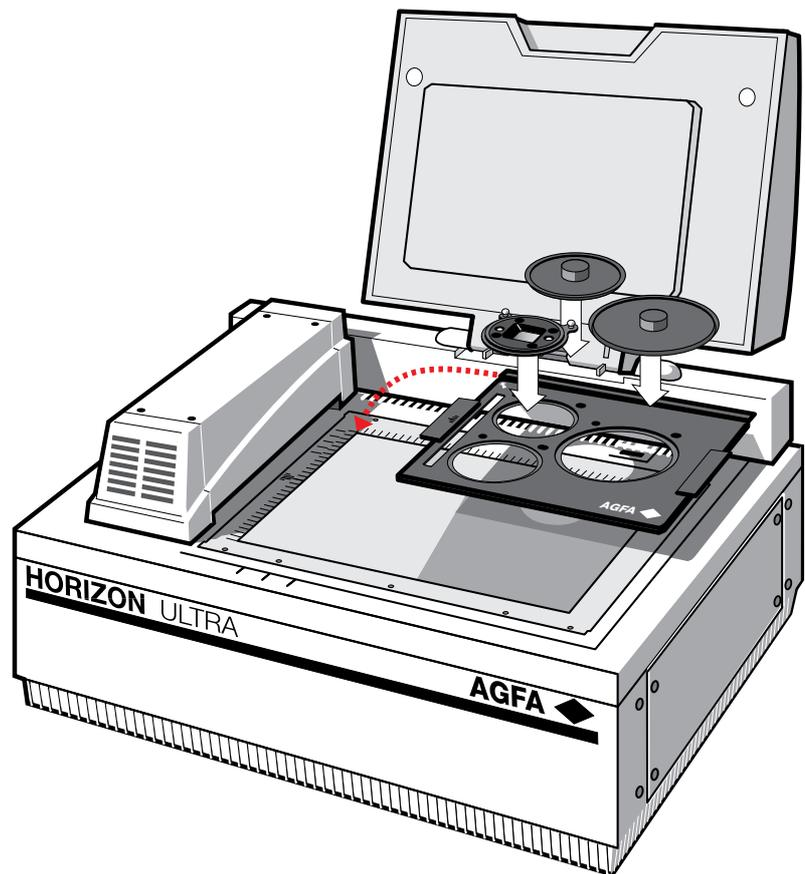

Figure 1-11
5. Place the transparency holder in the transparency-holder frame. Make sure that the pins of the holder are inserted completely in the holes of the frame (see Figure 1-11). The transparency holder should be in full contact with the protection foil of the transparency-holder frame.